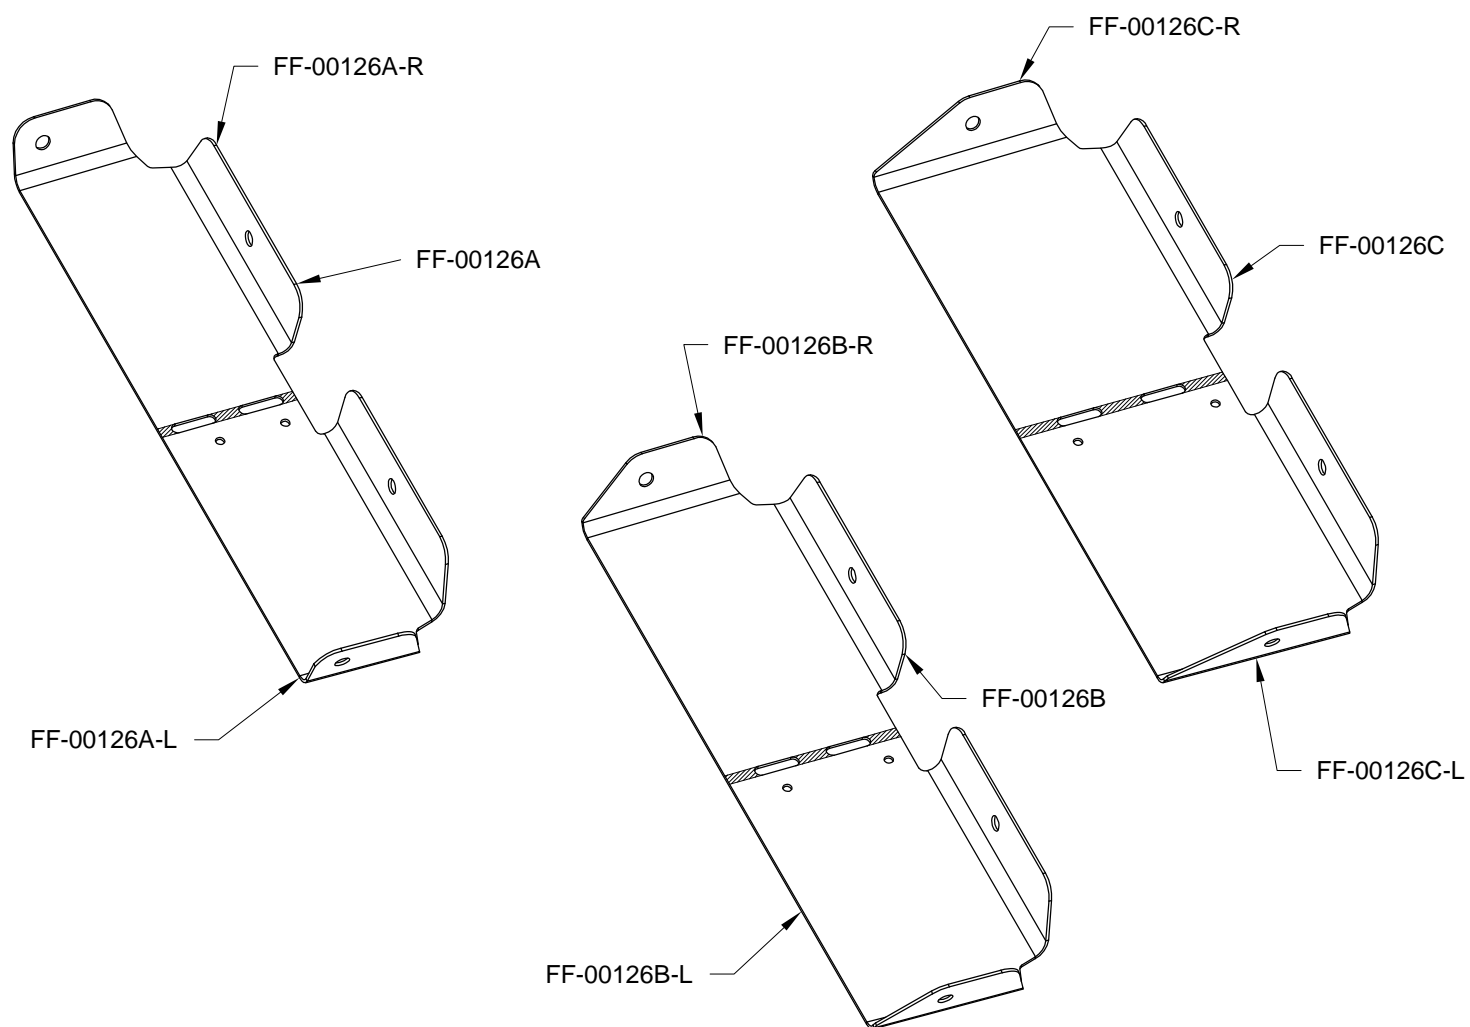

FIGURE 1: SEPARATING THE COVERS
Step 1: Separate and deburr the FF-00126A-L & -R, F-00126B-L & -R, and F-00126C-L & -R Oil Cooler Covers. See Figure 1.